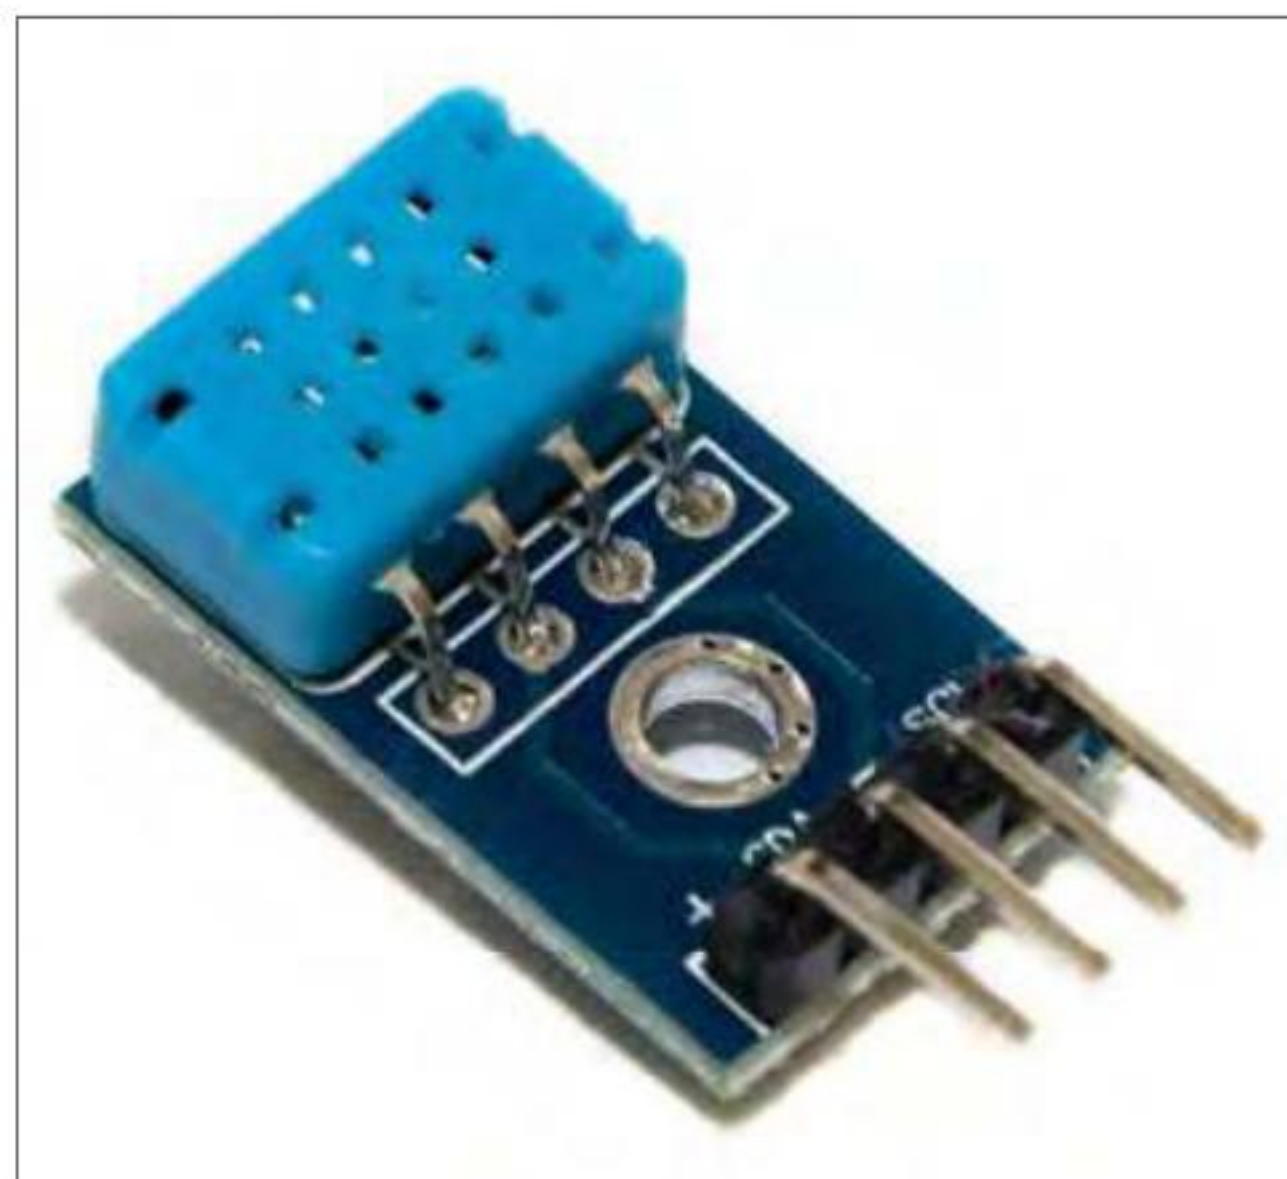

Fig.1. DHT12 Temperature & Humidity sensor (the blue vented component) – you can use the PCB-mounted module version shown here, or the standalone sensor.
We selected the DHT12 sensor, as shown in Fig.1. The sensor itself is the blue box; we chose to purchase it mounted on a tiny prototyping PCB from an eBay supplier. Even when fitted on a prototyping PCB the sensor is small enough to fit into a small enclosure – the sensor board measures just 20×14mm. You can find this particular version on eBay; for example, eBay item 192300097559, but many similar versions are available. The breakout board provides a pull-up resistor and decoupling capacitor on the underside, which are not strictly necessary in this application, so feel free to purchase the sensor by itself.